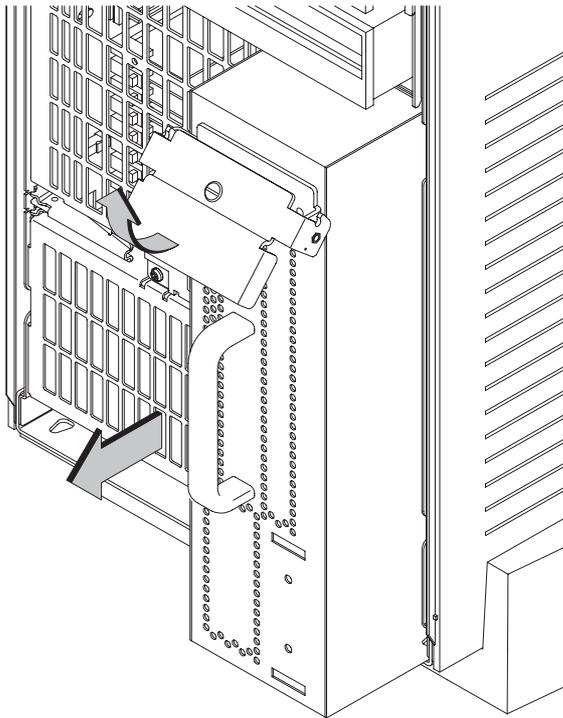

Figure 5-53. Removing the Power Supply
3. Unscrew the screw in the center of the power supply extractor and lift the extractor up. The power supply assembly slides partway out, disconnecting from the internal connectors. See Figure 5-53.